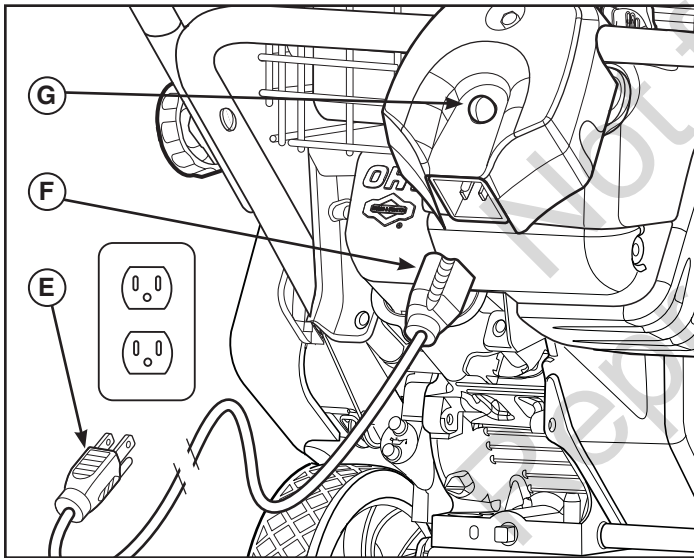

Figure 6
7. **Electric Start:** First connect the extension cord (E, Figure 6) to the power cord receptacle (F) and then into a wall receptacle. If additional extension cord is required, make sure it is three-wire.
8. **Electric Start:** Depress the starter push button (G).